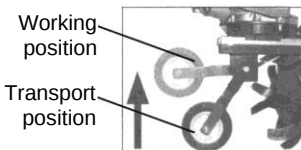

Fig. 4
- Raise the transport wheel to the working position (Fig.4)
To move the machine, move the drive wheel down (Fig.4).
Transport wheel (Fig.4) is used to facilitate the transport of the machine from one place to another. Before starting work, place the wheel in the highest position.